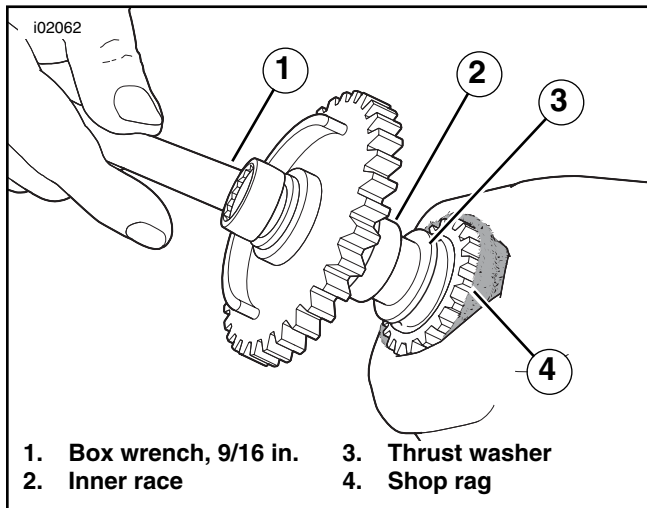

Figure 2. Install Bearing Inner Race (with O-Ring and Thrust Washer)
- e. See Figure 2. Wrap a shop rag (4) around camshaft to get a firm grip and also to protect hand from sharp edges of sprocket. Using a 9/16 in. box wrench (1), turn flange bolt in a clockwise direction. Bearing inner race (2) is fully installed when it makes firm contact with the thrust washer (3).
- f. Verify that thrust washer (3) is locked in place and cannot be rotated. If necessary, install shaft in vise using brass jaw inserts, and further tighten flange bolt until the desired result is achieved.